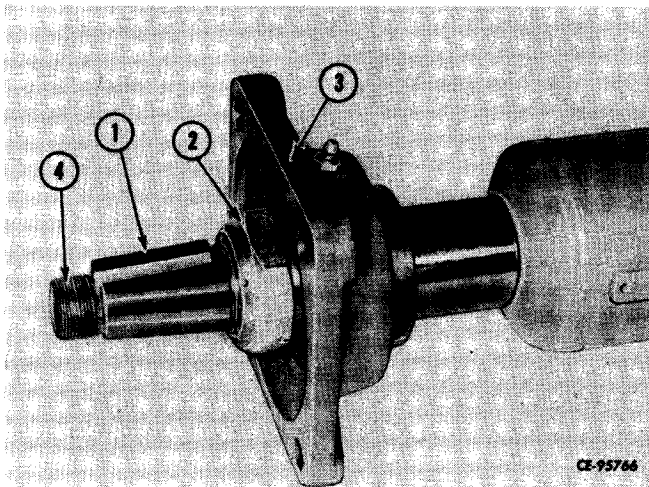

Figure 5-6
Remove key (1, Fig. 5-6) from end of drive shaft (4). Remove lock nut (2) and center bearing (3).